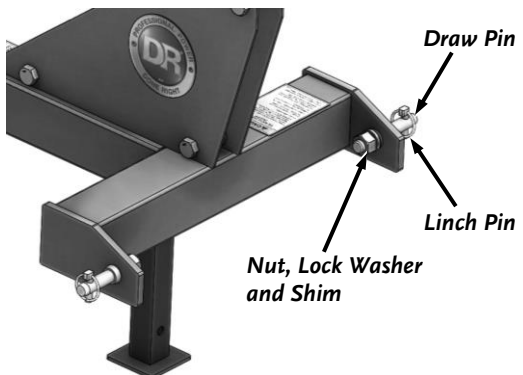

Figure 10
11. Position a Draw Pin into the Frame with the threaded portion facing in (**Figure 10**). Insert a #3 Phillips or a 5/16" punch into the hole at the end of the Pin to prevent it from rotating. Secure the pin with a 1" ID X 1.38" OD Shim, 7/8" Lock Washer and 7/8" Nut using a Large Adjustable Wrench. Repeat step 11 for the other Pin.